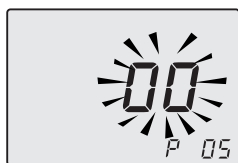

Fig. 8.5
- Scroll the various parameters using keys 17 or 18 until the letters **P05** are displayed on the LCD display, indicating that "parameter 05" (Fig. 8.5) has been activated.